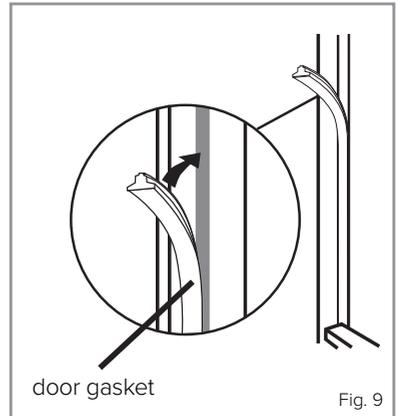

Fig. 9
- Fill the gap on the non-hinged side with the gasket/seal strip provided, as shown in figure 9.